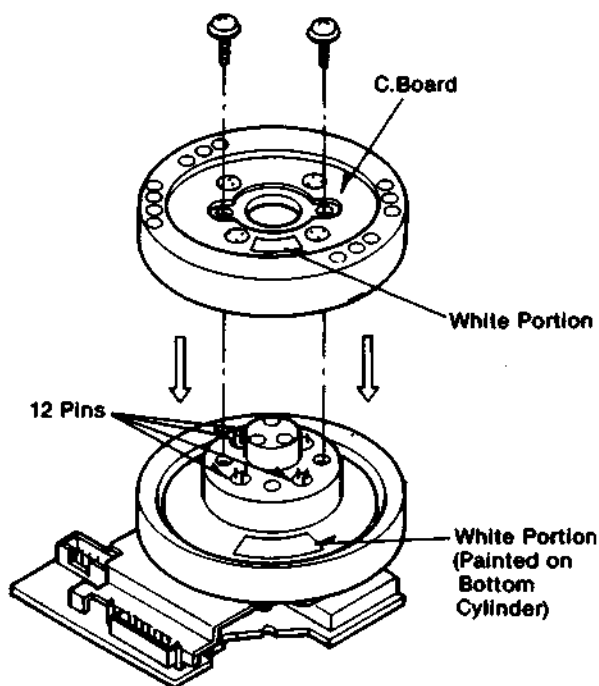

Fig. 1-15
- The upper cylinder unit can be reinstalled by reversing the removal procedure, however, when the upper cylinder is reinstalling, be extremely carefull so that the white portion of the cylinder board correctly matches the white portion of the bottom cylinder as shown in Fig. 1-15.